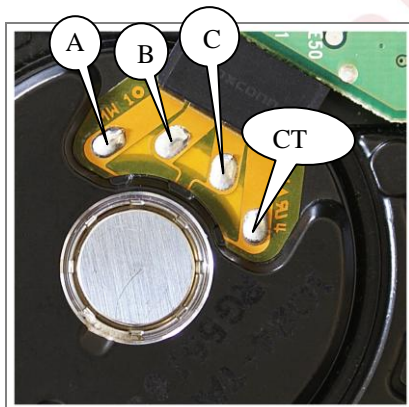
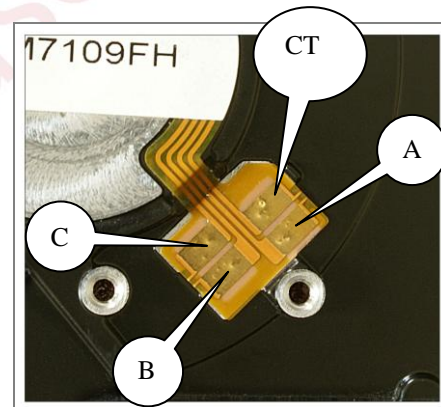

Fig. 2.2. Winding resistance measurement points for 3.5" HDD.
Fig. 2.3. Winding resistance measurement points for 2.5" HDD.
- ◆ Green colour in the figure below marks the drive families using classic format of module headers. We'll refer to them as MWD-CHS. MWD-CHS drive families use external boot ROM (see Fig. 2.3).
To check the spindle motor, remove the board and measure the winding resistance in the points shown in the figures below (Fig. 2.2 for 3.5" drives, Fig. 2.3 for 2.5" drives).